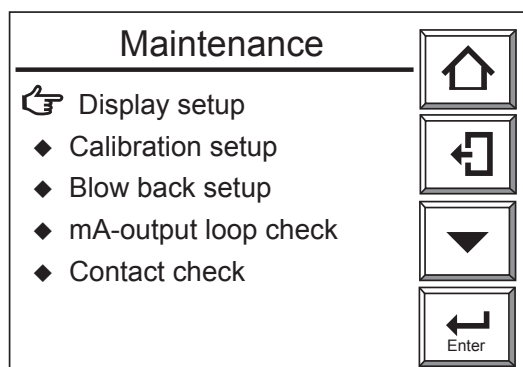
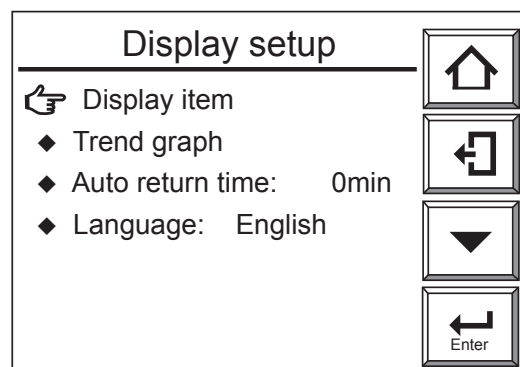

Figure 7.14 Maintenance Panel Display
Figure 7.15 Display Setup
- (1) Press the [Setup] key in the Basic panel display to display the Execution/Setup display. Then select “Maintenance” in the Execution/Setup display.
- (2) Select the “Display setup” from the Maintenance panel display (Figure 7.14). The Display setup display (Figure 7.15) then appears.